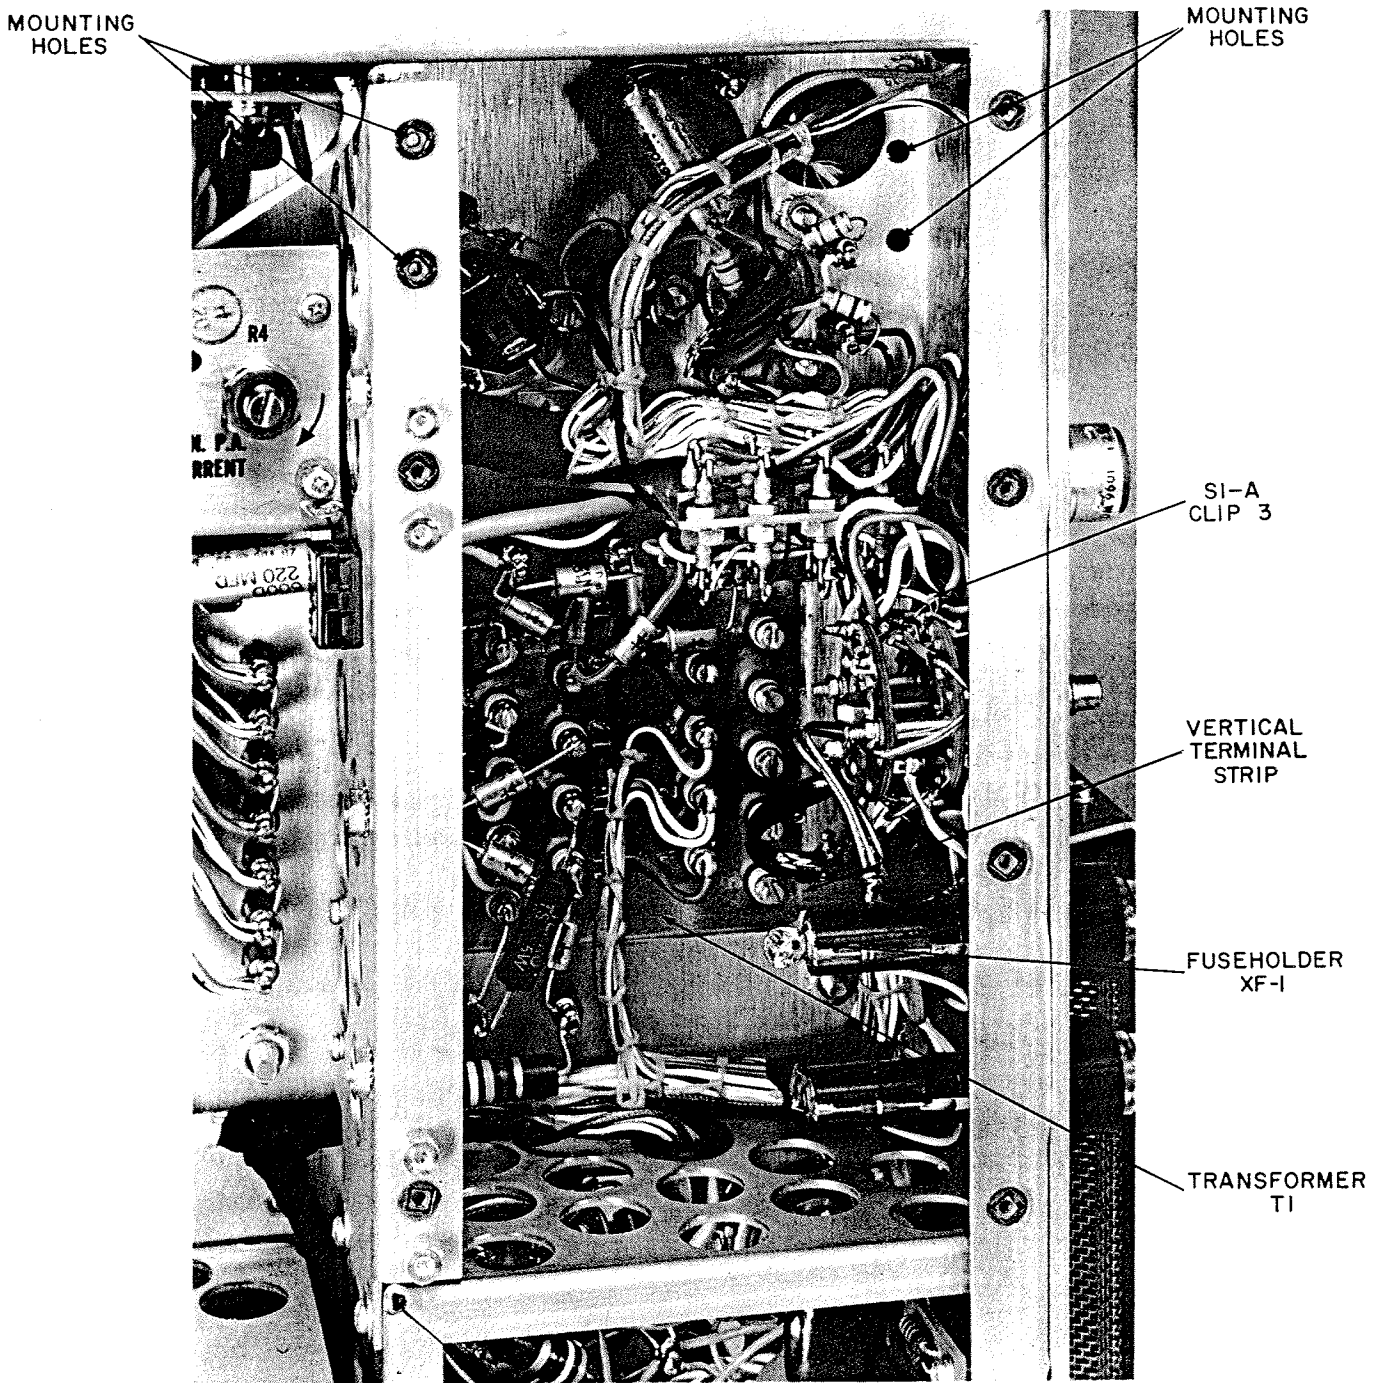

Figure 2.2 – DC Power Module Connections
space next to power transformer T1, figure 2.2. Dress the wire leads toward the terminals of T1 and secure the module with the four screws supplied. Two screws are to be installed from the top of the chassis into the module bracket and two through the module bracket into the shield flange on the bottom of the chassis.
- a. Connect yellow lead of the RF-303 to clip 3 on S1-A, see figure 2.2, and solder.
- a. Connect the yellow lead of the RF-304 to clip 3 on S1-A, see figure 2.2, and solder.
- c. Connect blue lead of the RF-304 to the end terminal of fuseholder XF-1, see figure 2.2.